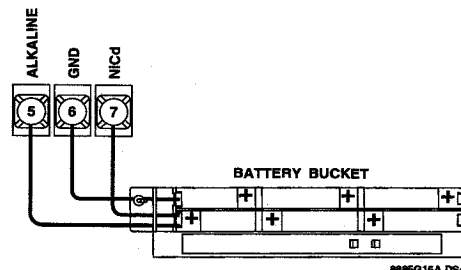

Figure 3. Backup Battery Connections
- 2) Connect the black wire from the battery bucket to panel terminal 6 (GND) as shown in Figure 3.
- 4) For NiCd battery use, connect the red battery bucket wire to panel terminal 7 (see Figure 3).
- or-- For alkaline battery use, connect the red battery bucket wire to panel terminal 5 (see Figure 3).